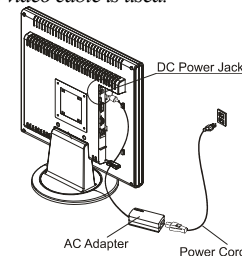

Figure 1-6
1. Connect the power cord to the AC adapter.(See Fig. 1-6)